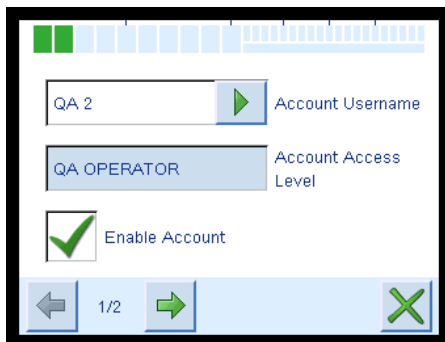
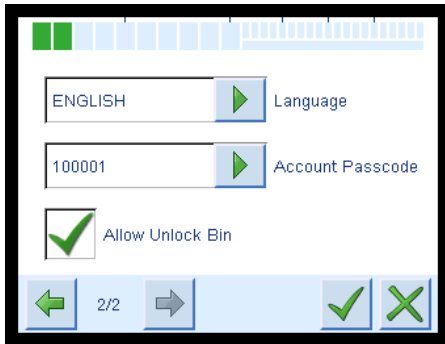
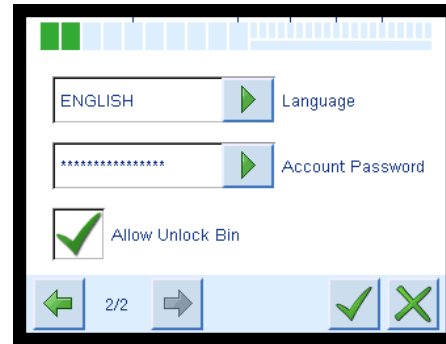

Figure 189:
Figure 190:
Figure 191:
The screen that appears next, either Figure 190 or Figure 191, will depend on what is configured in the Access Settings section, page 135. By default, Figure 190 will appear.
Figure 190 appears when the Access Settings have been set to **STANDARD** and requires a user to log into the metal detector, via the standard interface, by entering a Passcode.
Figure 191 will appear if the Access Settings are set to **21CFR** and needs a user to log in, via the advanced authentication screen, by entering a Username and a Password.
1. If Figure 190 has been set, press the **Language** parameter to select the language from the list.
1. If Figure 191 has been set, press the **Language** parameter to select the language from the list.
- **QA Operators** are accounts that have been created using this function. They have access only to the Performance Test and reporting functions. The edit account screens are the same as screens 1 and 2 of the account creation screens, shown in Figure 189 and Figure 190, only now you are changing the existing settings.